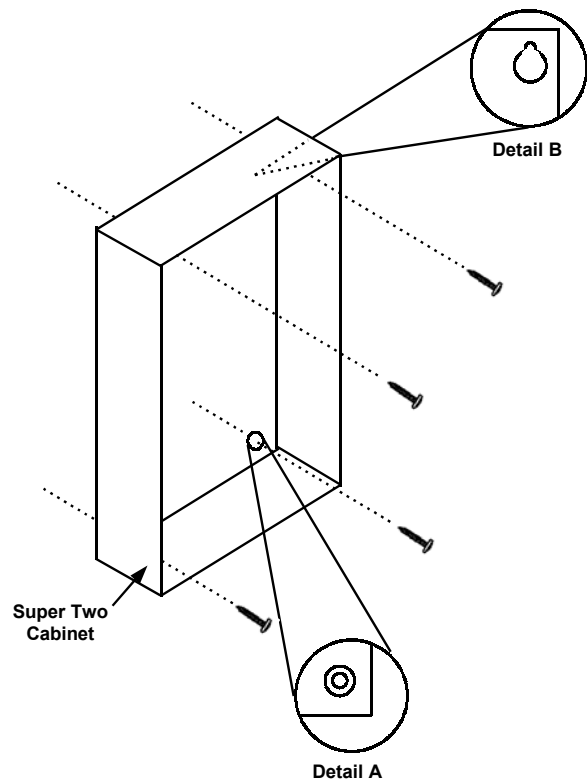

Figure 5 - Super Two Mounting Screws
**NOTE: Mark the small oval portion of the cabinet screw holes (see Figure 5, Detail A and B).**